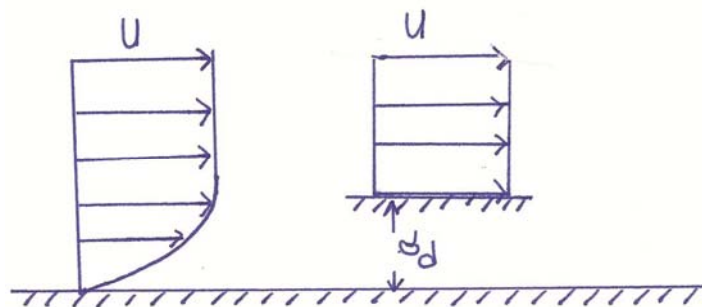

Figure 9.2. Boundary layer displacement thickness
- **The boundary layer displacement thickness:** It can be defined as the distance by which the solid boundary layer would have to be displaced to maintain the same mass flow rate in an imaginary frictionless flow (see Figure 9.2).